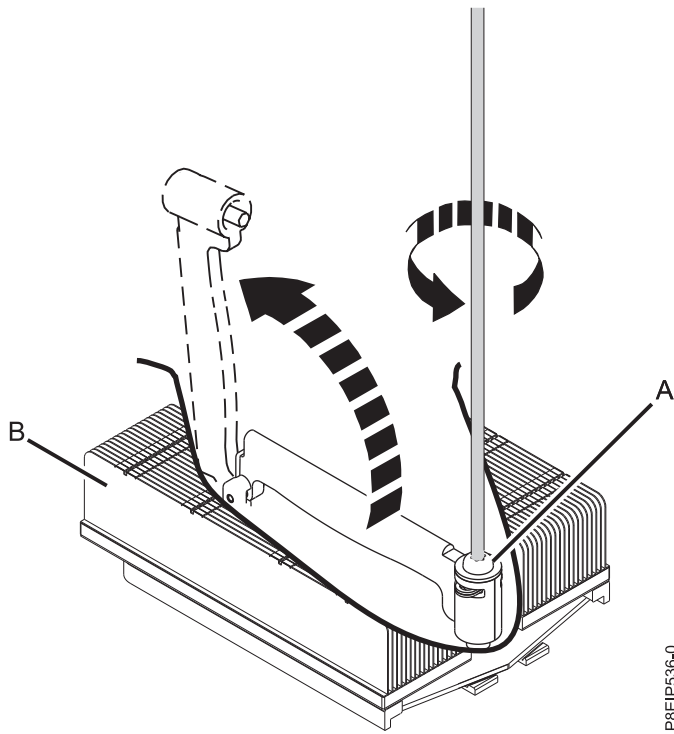

Figure 51. Loosening heat sink load arm screw
3. Loosen the load arm screw (A) of the system processor heat sink (B) that you are removing with a #3 Phillips screw driver. The load arm pivots in the direction that is shown in Figure 51 on page 46.